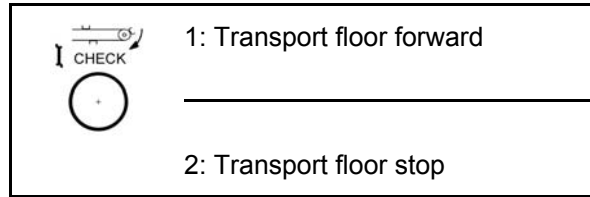

Fig. 104
6. Put the **Transport floor CHECK** operating lever (Fig. 104) to switch position "1" for a short time.